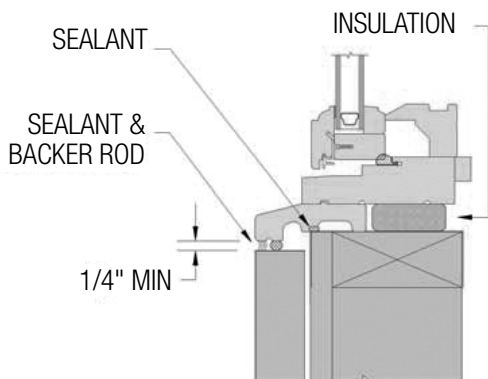

FIG. 17: CASEMENT SILL
- After siding or wall exterior is complete, apply backer rod and silicone sealant between the window frame and siding material on both sides and sill. (Fig. 17, 18 & 19)